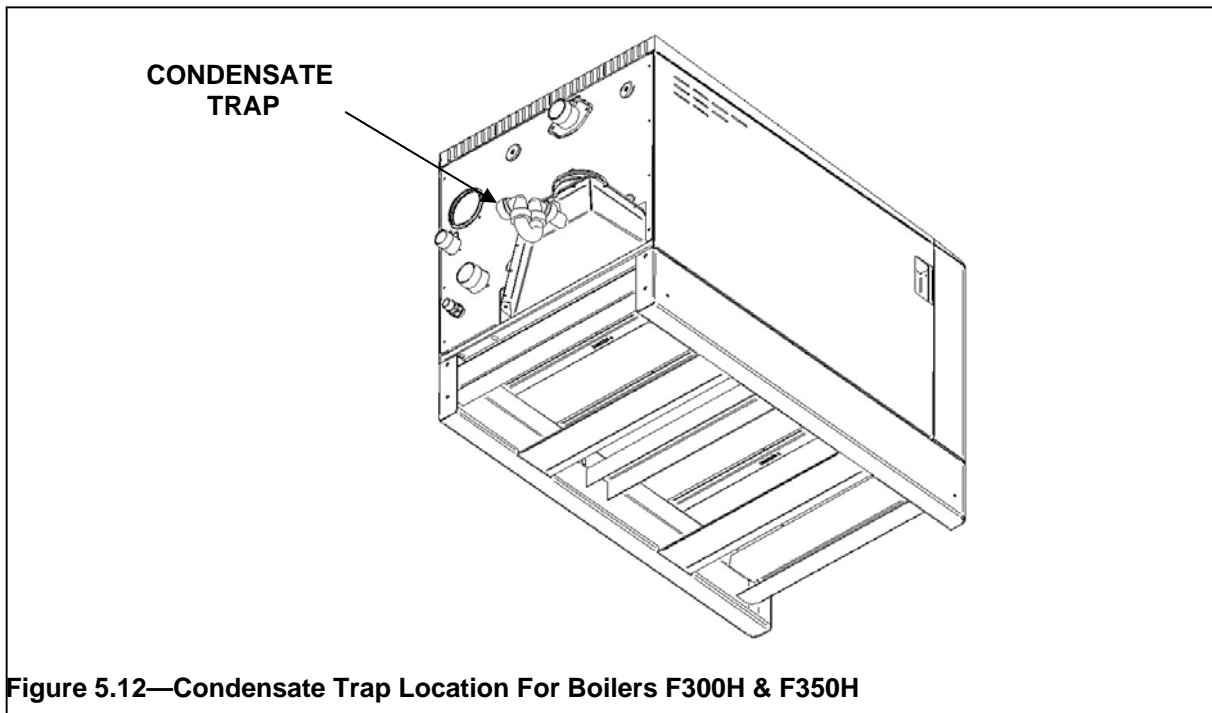

Figure 5.12—Condensate Trap Location For Boilers F300H & F350H
5.31 For assembly of condensate trap 530105095 to the spigot of the sump on boilers F300V & F350V See Figure 5.12.